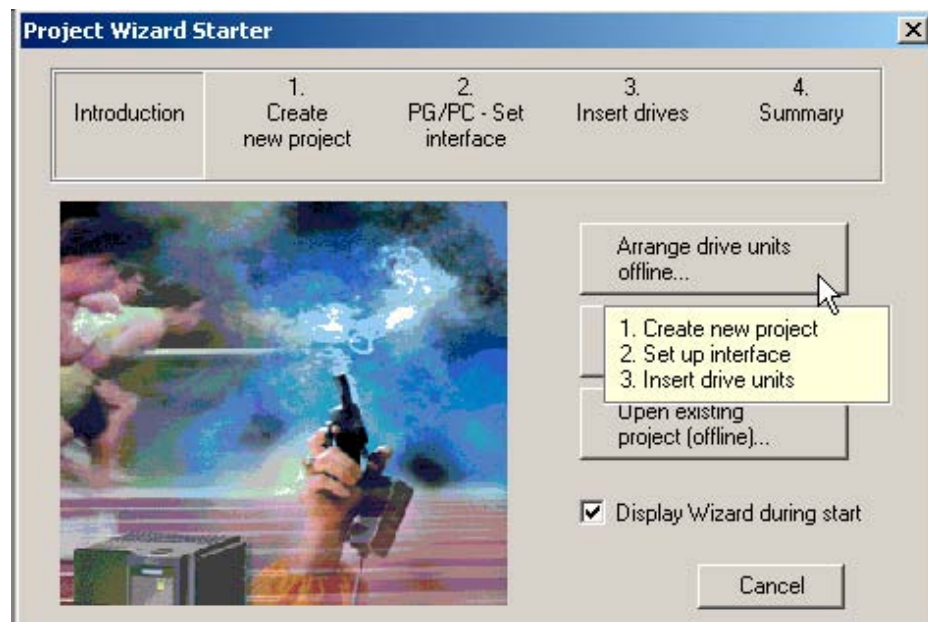

Fig. 3-2 Project Wizard Starter
3. Choose **Arrange drive units offline** (see Fig. 3-2).